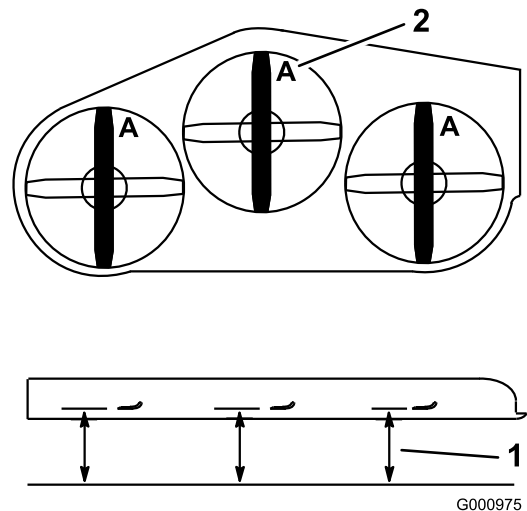

Figure 81
2. Measure from a level surface to the cutting edge, position **A**, of the blades (Figure 81).